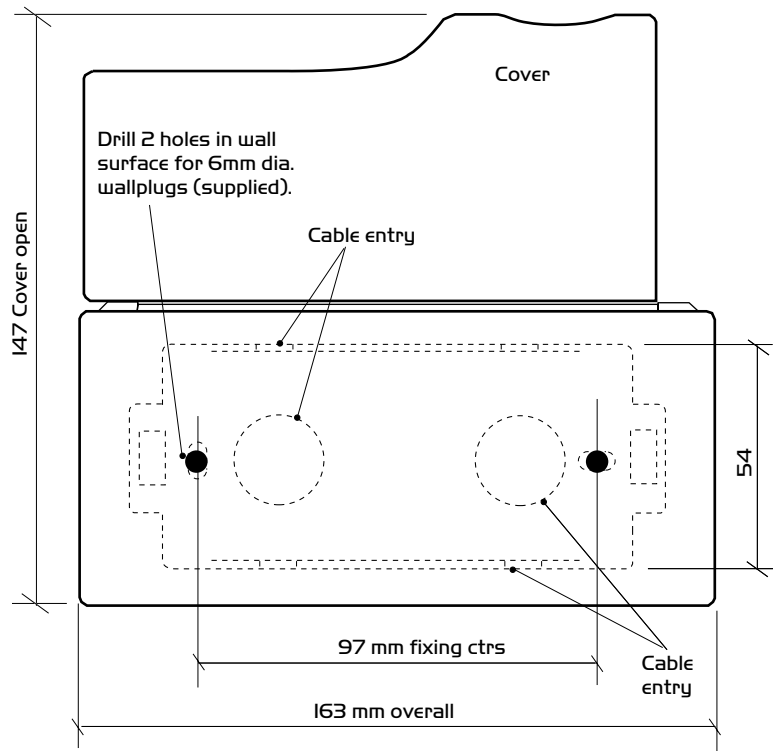

Figure 1. Drill pattern and fixing details.
a) Remove the backing plate/mounting cradle shown dotted in figure 1. Offer the cradle to the selected mounting position, mark and fix.